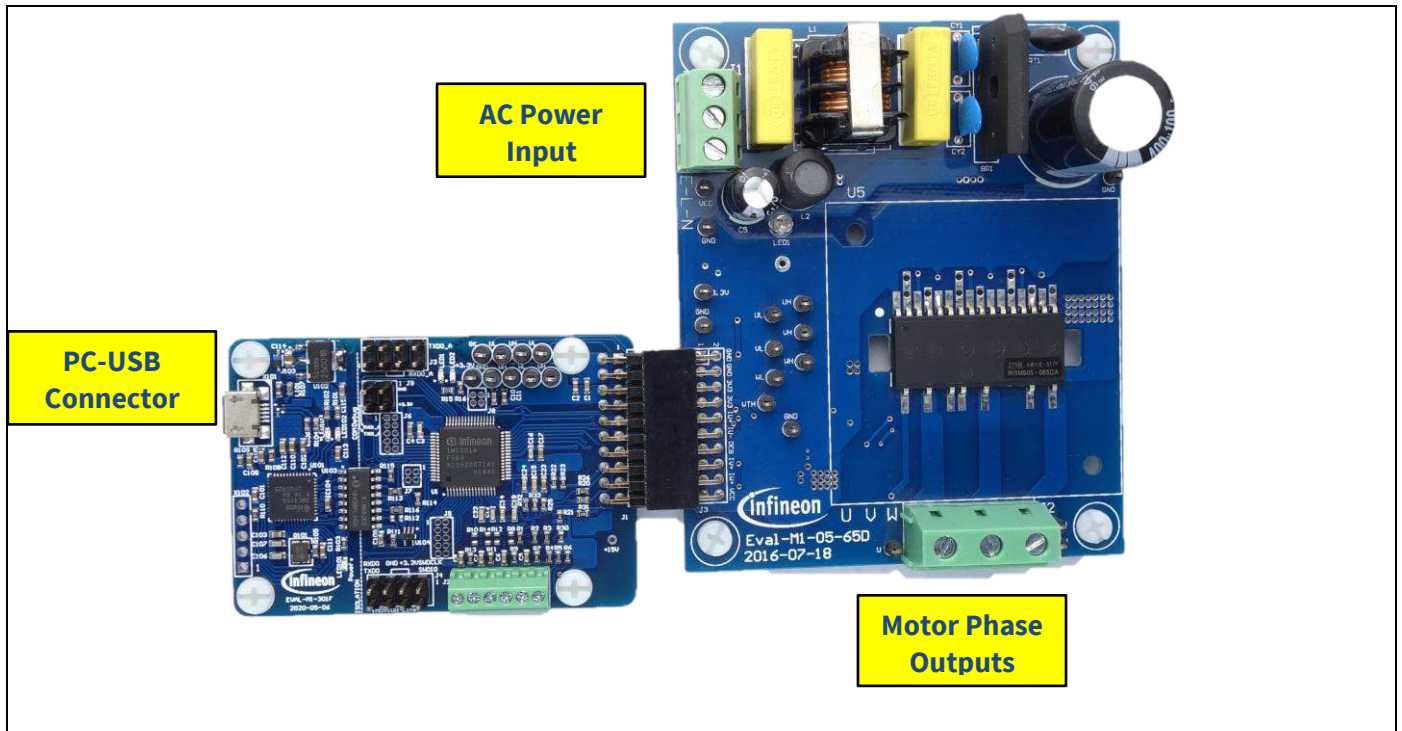

Figure 5 System connection example using EVAL-M1-301F and EVAL-M1-05-65D
3. Connect EVAL-M1-301F M1 20-pin interface connector (J1) to power board (for example EVAL-M1-05-065D, see Figure 5).